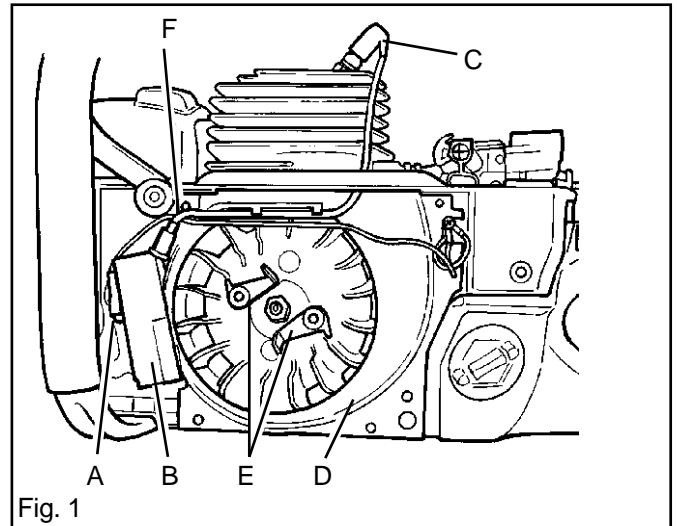
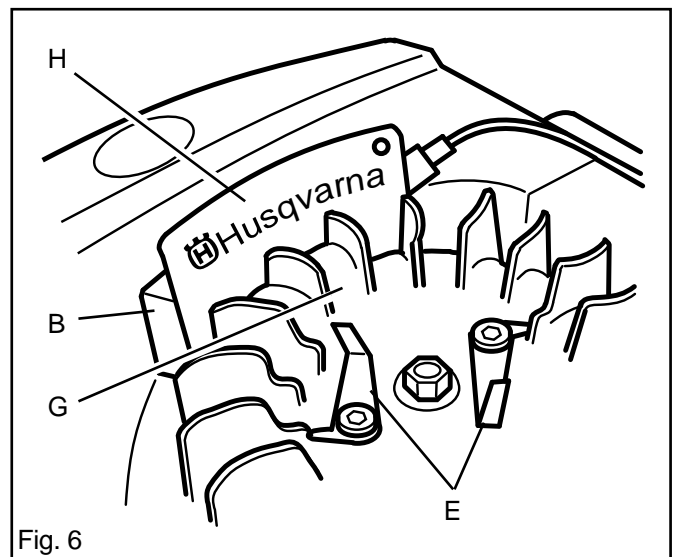

Fig. 1
Fig. 6
2. Release the blue lead (A) (which connects to the stop switch) from the ignition module (B). See fig. 1.
3. Remove the HT lead (C) from the spark plug, release both leads from the cable guide (D) and lift out the cable guide. See fig. 1.
4. Undo the two M4-bolts and remove the ignition module (B). See fig. 1.
5. Undo and remove the two pawls (E) for the recoil starter. See fig. 1.
5. Insert the feeler gauge (H) (0.3 mm) into the air gap between the ignition module and flywheel magnet. The clearance applies only to the two lower pegs on the ignition module. See figs. 6 and 7.
7. Fit the cable guide (D) and press in the HT lead into place. Remove the piston stop and connect the HT lead to the spark plug.
8. Pull out the blue lead, thread it under the HT lead at F and push home the cable clip onto the ignition module. See fig. 1.